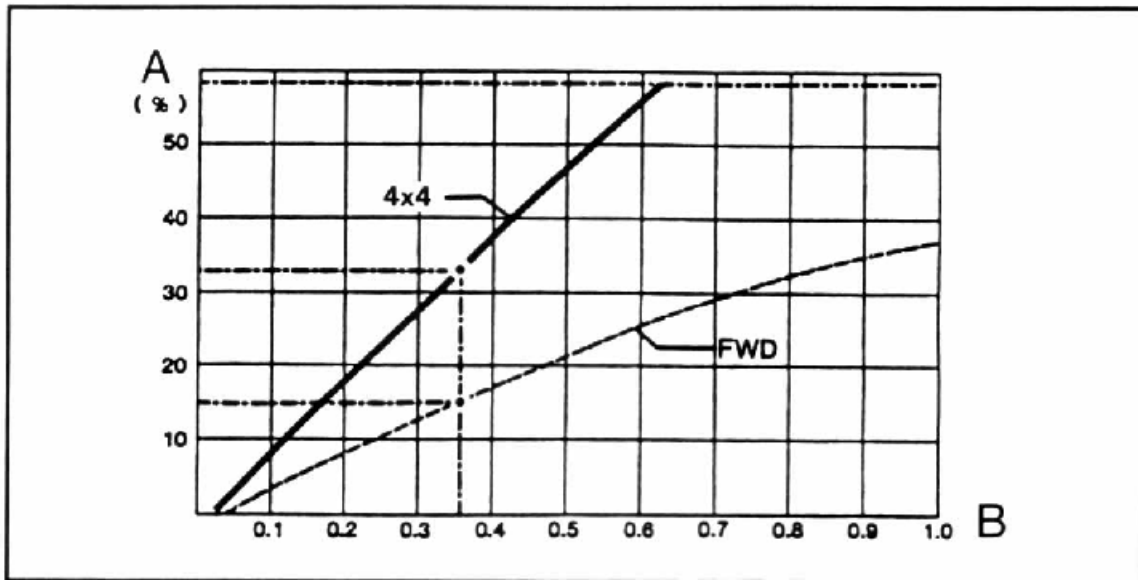

Figure 4-1
Figure 4-1 shows the climbing ability (A) at a certain frictional coefficient (B) for a four-wheel drive and for a normal front wheel drive. The constant four-wheel drive substantially increases driving and traction forces. The advantages of this can be noticed particularly when starting from rest and driving on difficult terrain such as unsealed roads or surfaces that have been made slippery by ice and snow. Driving under these road conditions presents few problems in terms of becoming bogged or losing traction, as the four-wheel drive function allows normal driving regardless of the road conditions. When braking, the same need for care applies as with a normal front wheel drive vehicle.